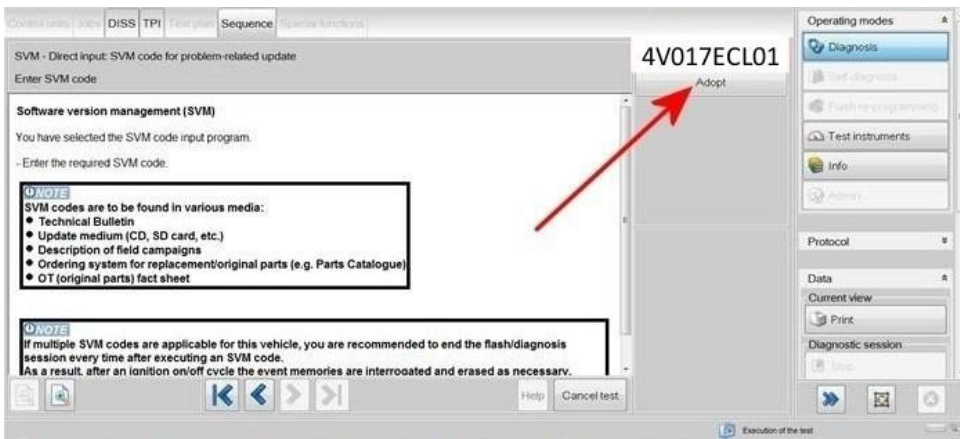

Figure 3
2. On the next screen enter the SVM code 4V017ECL01 and select Adopt (Figure 3)